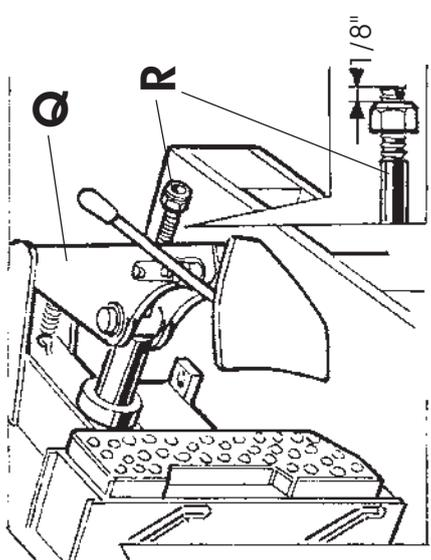
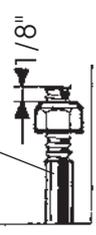

Fig. 5
Fig. 6
- ❑ Open the bead-breaker arm "Q" (Fig.5).
NOTE: nut "R" (Fig.5) must be screwed onto the bead-breaker cylinder rod (as shown in Fig.6) only after the machine has been installed and hooked up to the compressed air line.
At this point perform the operations described in the NOTE above (see Fig.6)